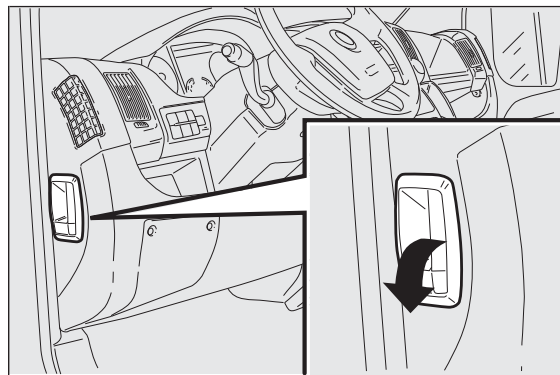

fig. 126
- ☐ pull the lever fig. 126 in the direction indicated by the arrow;